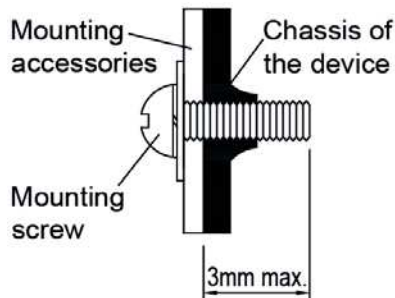

Fig. 4 Mounting Screw
- **For PMT and PML Series (Refer to Fig. 4):** Only use M3 screw $\leq 3\text{mm}$ (0.12 inch) through the base mounting holes. This is to keep a safe distance between the screw and internal components. Recommended mounting tightening torque: 4~7Kgf.cm (3.47~6.08 lbf.in).